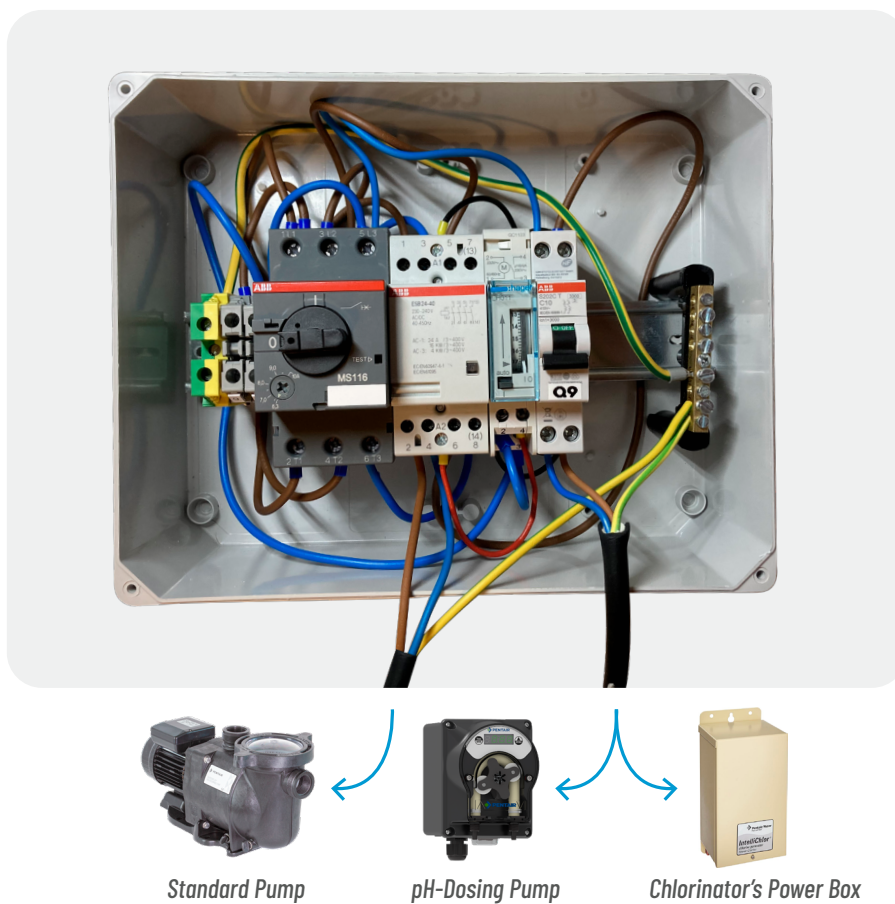

Figure 2 Remove the wires from motor protector to the pump.
2. Remove the old single speed pump by disconnecting the electrical wiring and plumbing connections. See Figure 2.